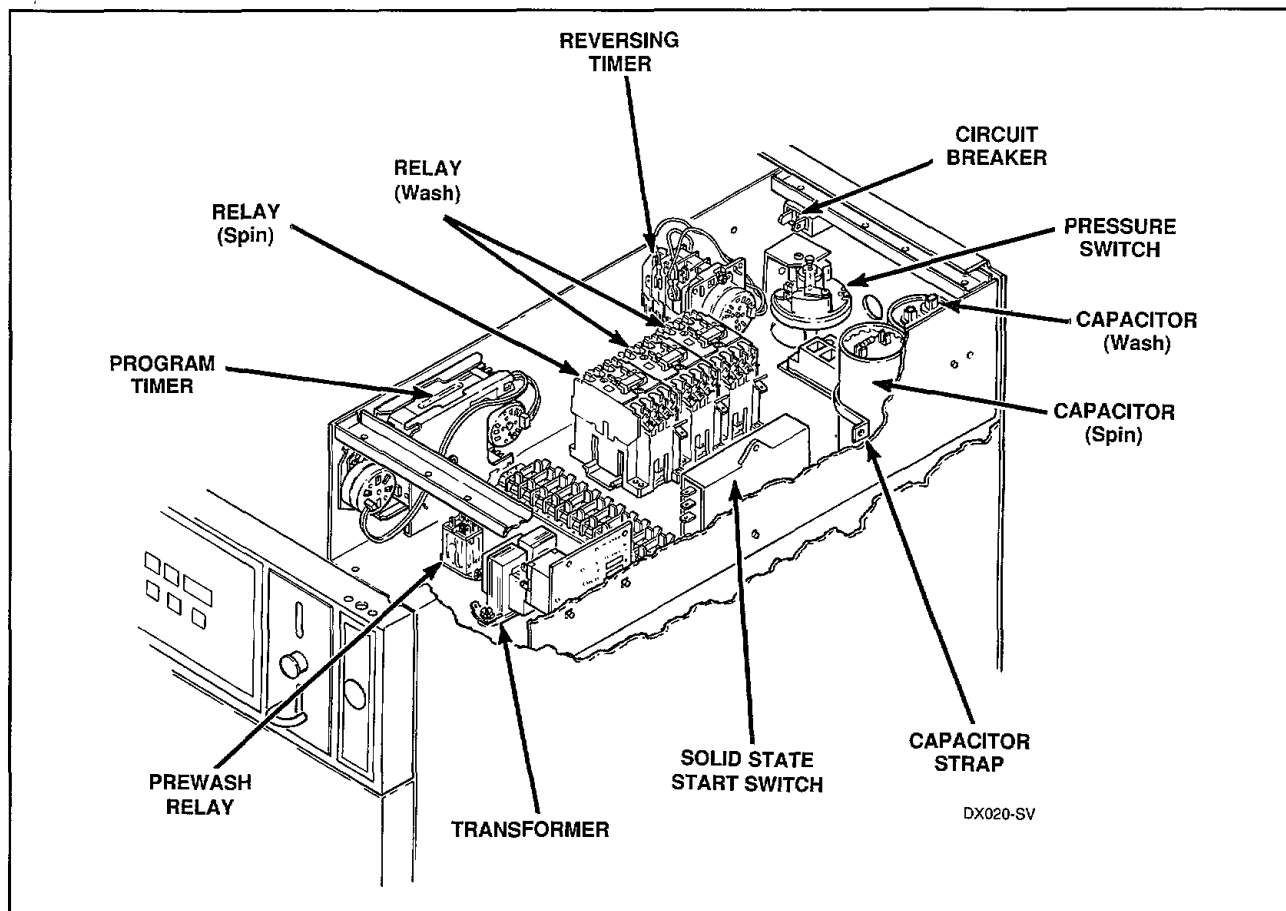

Figure 14
- d. Remove two screws and washers holding timer to control tray, *Figure 14*.
NOTE: When installing timer, be sure timer is installed correctly and is mounted firmly to the control tray, *Figure 14*.
- c. Remove two screws and lockwashers holding timer to mounting bracket (located inside control tray), *Figure 14*.
- c. Remove nut holding circuit breaker to rear cross channel, *Figure 14*.
- c. Remove Phillips head screw holding pressure switch to mounting bracket on control tray, *Figure 14*.
- d. Remove two screws holding relay to control tray, *Figure 14*.
- c. Remove two screws holding transformer to control tray, *Figure 14*.
- d. Remove screw holding capacitor strap to side of control tray and remove capacitor, *Figure 14*.